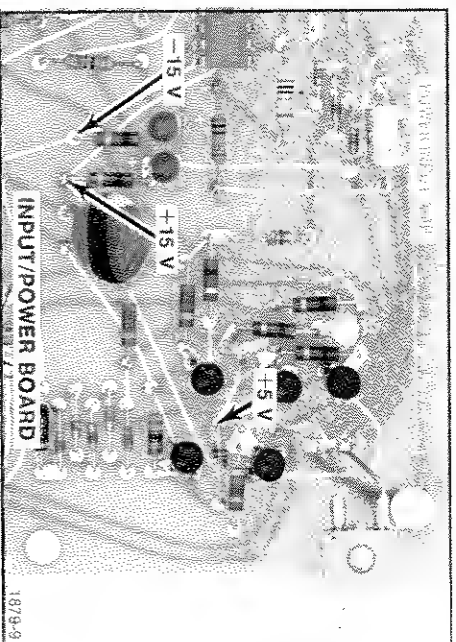

Fig. 12. Location of Power Supply test points.
c. Using the external Digital Voltmeter, measure the dc level of each power supply listed in Table 4. Observe proper meter polarity. See Fig. 12 for test point locations.